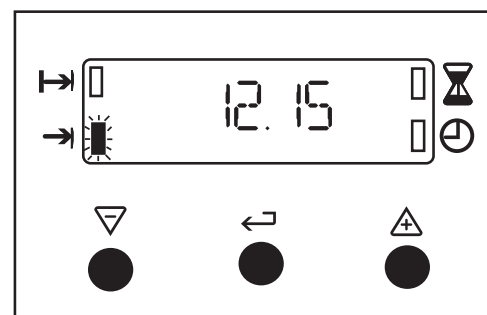

Fig.13.
- To stop the sound press any of the three buttons, as Fig. 13.